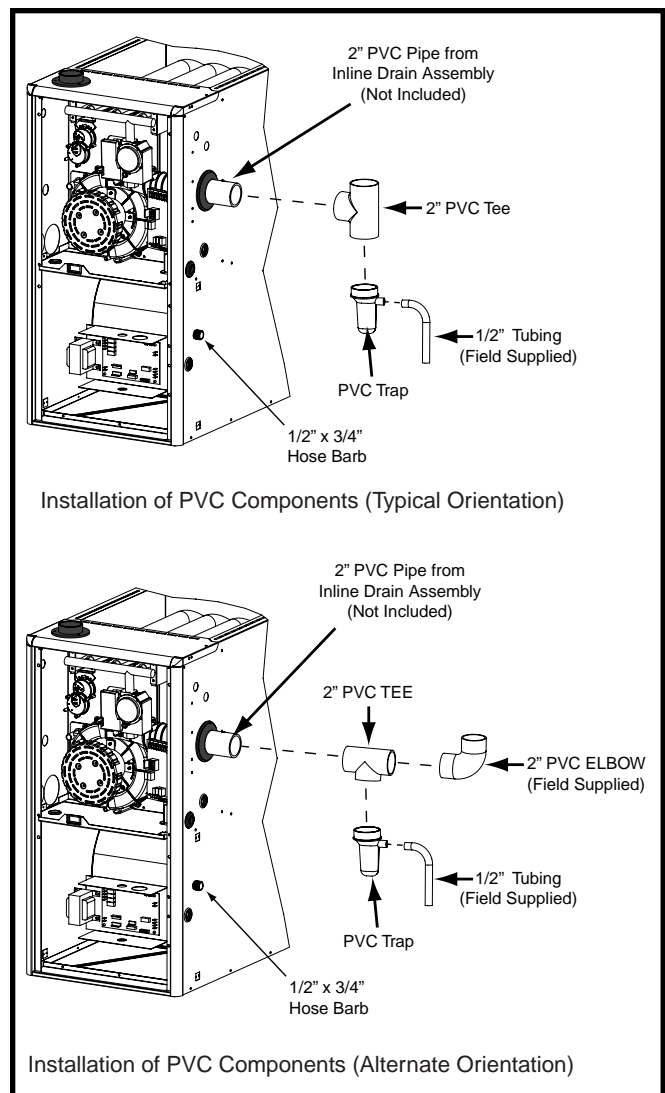

Figure 17. PVC Components
The 2" PVC Tee and Trap shown in Figure 17 (page 19) are used when the inducer is rotated to vent out thru the left or right side of the furnace cabinet.
1. Install the PVC Tee vertically on the 2" vent pipe that is extending out the side of the cabinet. Permanently bond them together using appropriate primer and cement. Refer to the typical orientation shown in Figure 17.
1. Install the 2" PVC Tee horizontally on the 2" vent pipe that is extending out the side of the cabinet. Permanently bond them together using appropriate primer and cement. Refer to the alternate orientation shown in Figure 17.